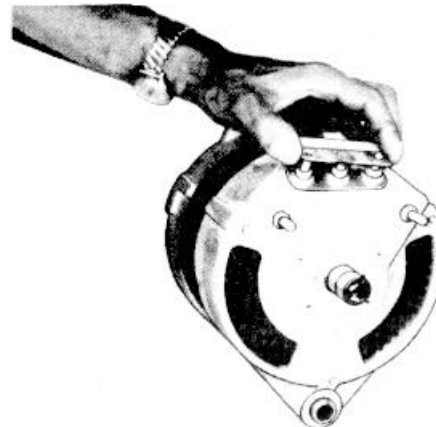

FIG. 6
4. Remove three nuts and lift diode trio off of AC terminal studs. (See Figure 6.)